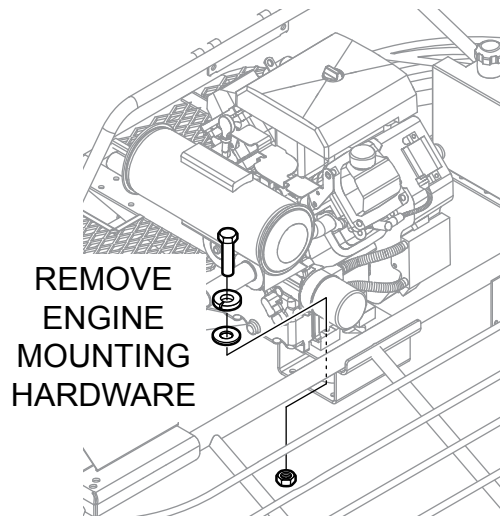

Figure 8. Remove Engine Mounting Hardware
1. Remove and discard existing engine mounting bolts, washers and nuts (4 places). See Figure 8.